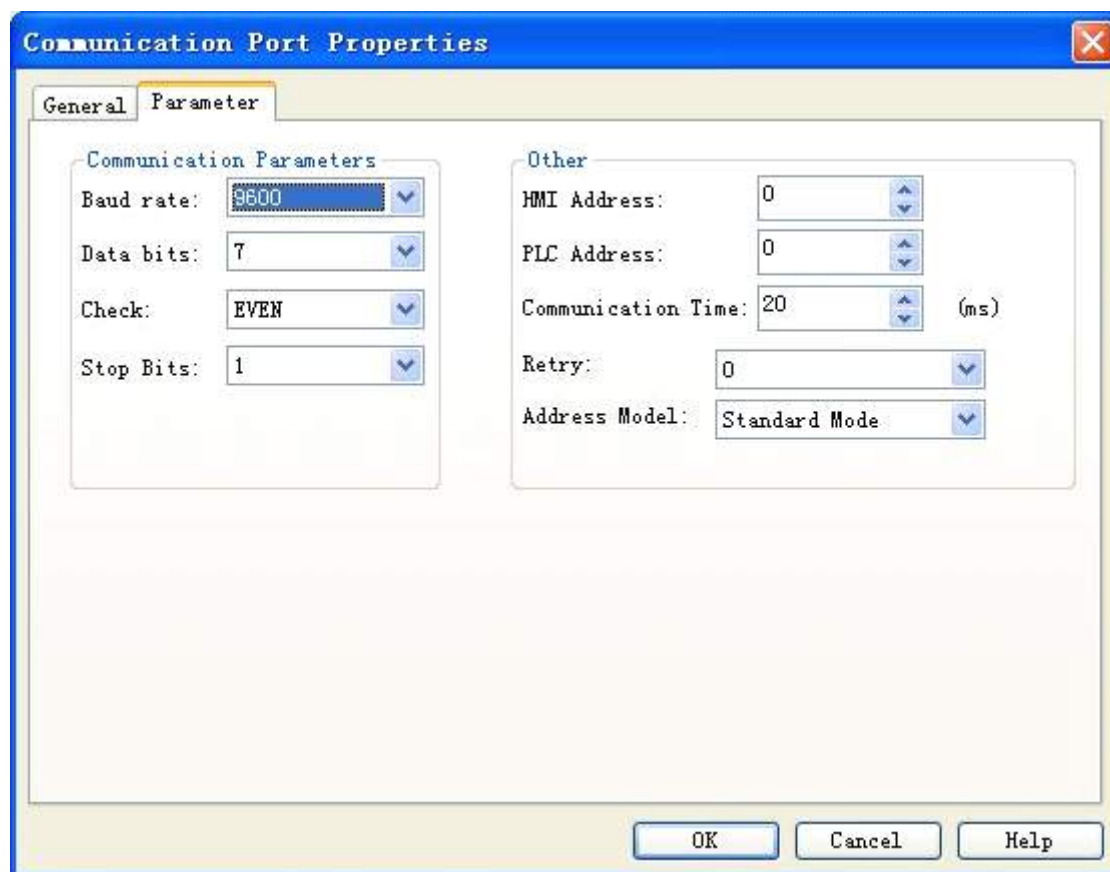

Figure 7-2 Parameter setting of COM1 communication screen
- ◆ Click the tab “Parameter” in the dialog box, as shown in figure 7-2.